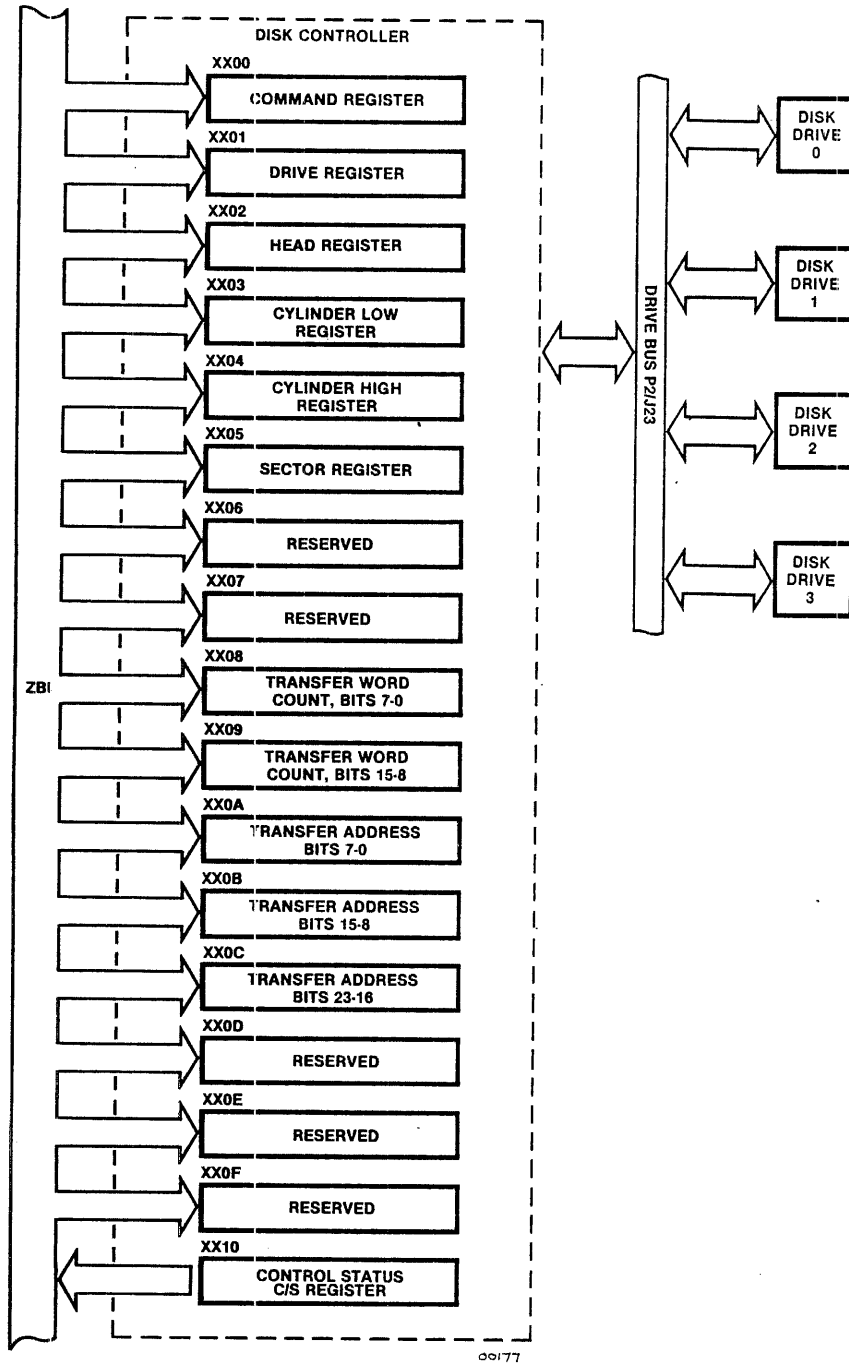

Figure 4-4 Disk Controller Command and Command Status (C/S) Registers
4.5.2.1 CPU Interface: The CPU communicates with the controller through 16 8-bit command registers and an 8-bit command-status (C/S) register (Figure 4-4). Each register has a specific command assignment and a specific address. The CPU writes commands into command registers xx00 through xx0F; the controller reads these registers and performs the specified commands. The controller places the results or status of the specified command in the C/S register which the CPU reads. Table 4-14 lists the command and C/S registers.